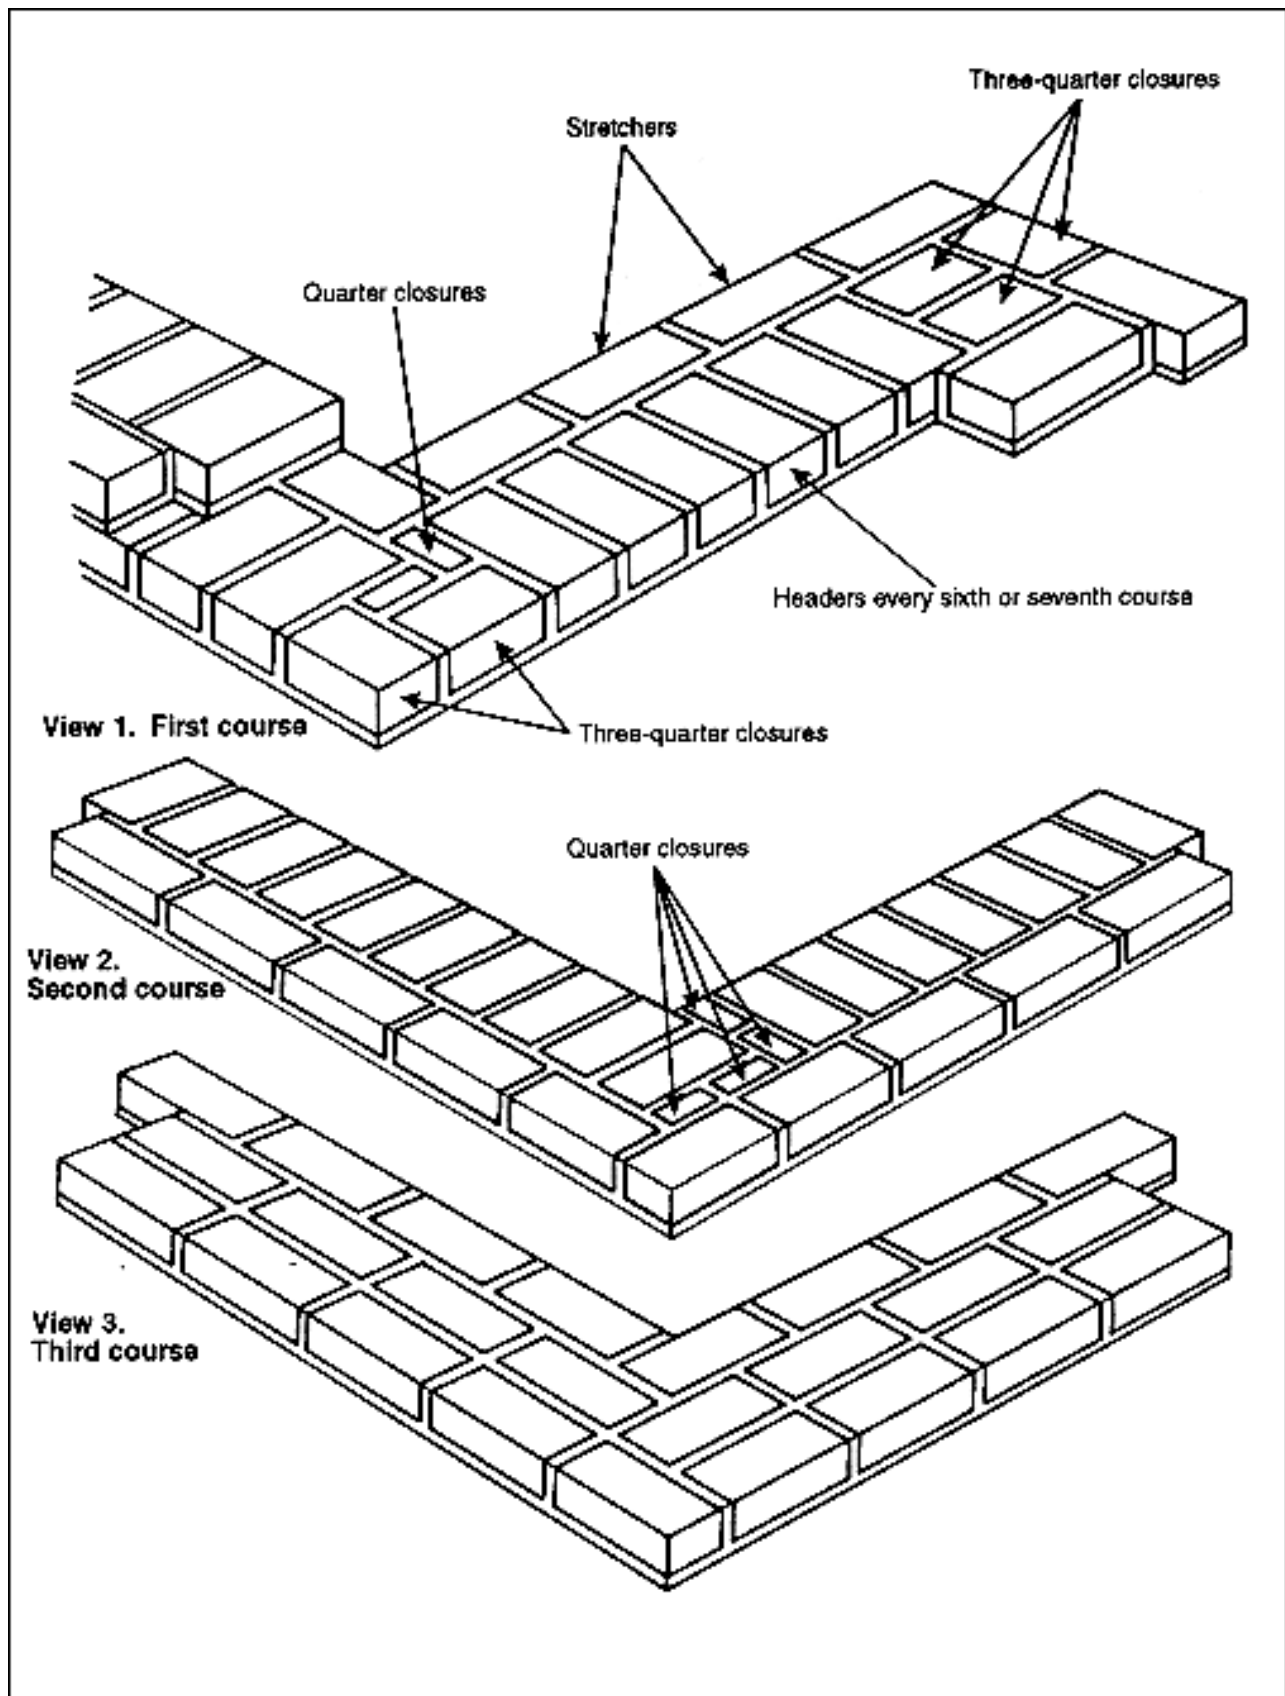

Figure 9-27. Laying a 12-inch common-bond brick wall
9-53. Figure 9-27 below shows how to lay the first three courses of a 12-inch common bond-brick wall. Note that the construction is similar to that of an 8-inch wall, except that it includes a second tier of backup brick (see view 3 of Figure 9-27).
Step 1. Lay two overlapping header courses first (see view 1 of Figure 9-27), and build the corner leads.
Step 3. Lay the second course as shown in view 2 of Figure 9-27, and the third course as shown in view 3 of Figure 9-27.